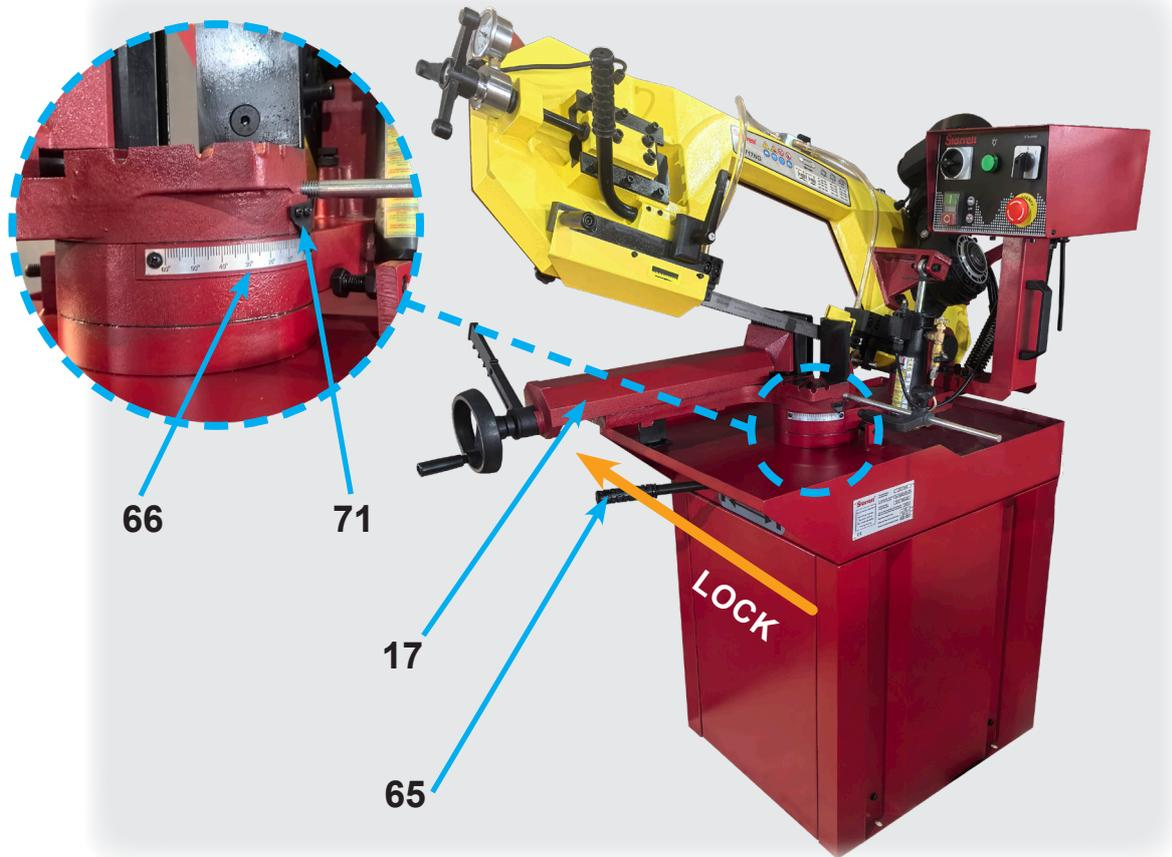

FIGURE 12.5 - BOW LOCK LEVER AND BOW POSITION FOR CUTTING AT 0°
8. OBSERVE the the cutting performance. If there is anything or abnormal noise, stop the cutting process by pressing the EMERGENCY Button (03);
At the end of the cut, the Arm (46) presses the Limit Switch (44), turning off the Motor (25) (figure 7.3). At the same time, the Bow (04) touches the Stopper Pin (58) (figure 12.5).
The first is at the end of the cut, when the Limit Switch (44) (figure 12.5) is activated, switching off the Motors (25) of the Band Saw Blade (10) and the Coolant Pump (24).
2. PUSH the Bow Lock Lever (65) counterclockwise, in the opposite direction to that shown in figure 12.5;
TURN the Bow (04) to the desired angle shown on the Scale (66) in relation to the Pointer (67) (figures 12.5 and 12.6);
3. PULL the Bow Rotation Lock Lever (65) clockwise (LOCK), as shown in figure 12.5.
CHECK if the Bow (04) is locked by forcing it to turn by the Lever (65) (figure 12.5).